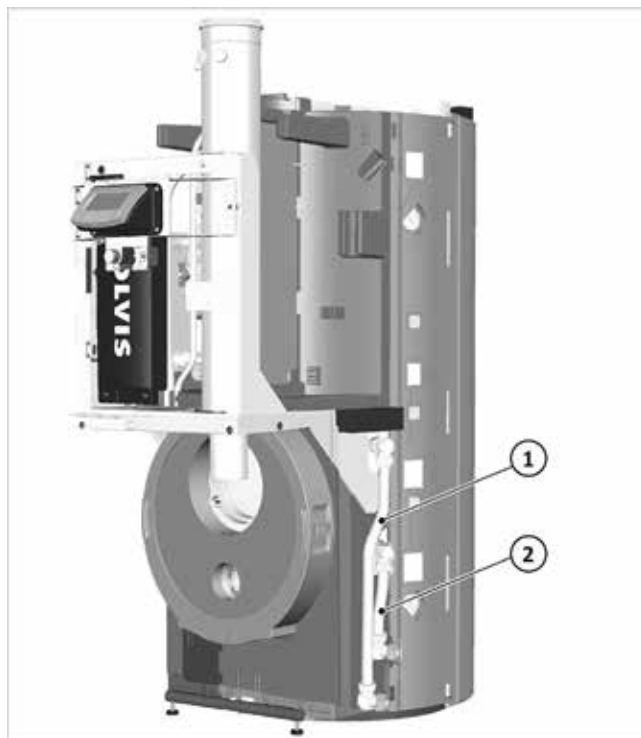

Fig. 35: H-VL (1)/H-RL connection (2) for external heating circuit stations
1. Remove the two elbows on the heating flow and heating return connections (see → fig. 35, page 19).